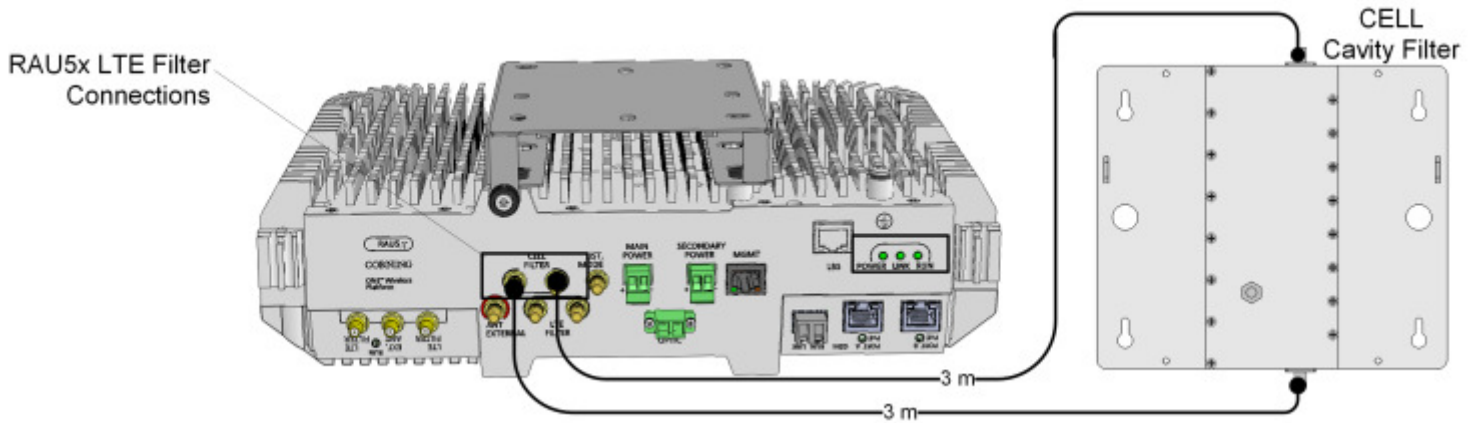
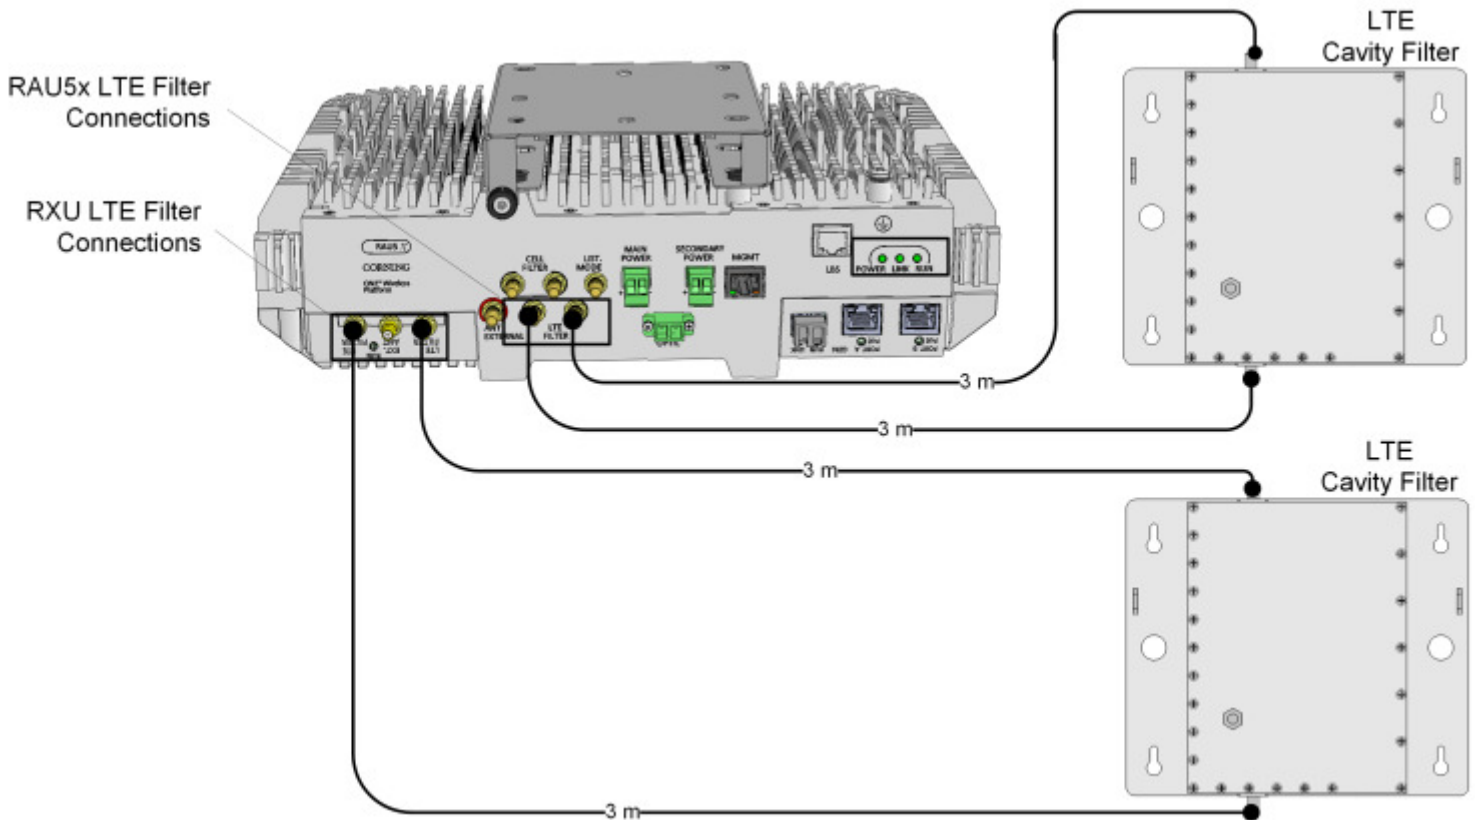

Figure 4-39. Example of RAU5x External CELL Filter Connections
Figure 4-40. Example of RAU5x and RXU External LTE Filter Connections
*Note: In installations where additional units are deployed which support the 700 MHz band and the RAU5x is installed with an RXU – both RAU5x and RXU modules must be connected to an external LTE filter. See Figure 4-39 and Figure 4-40.*